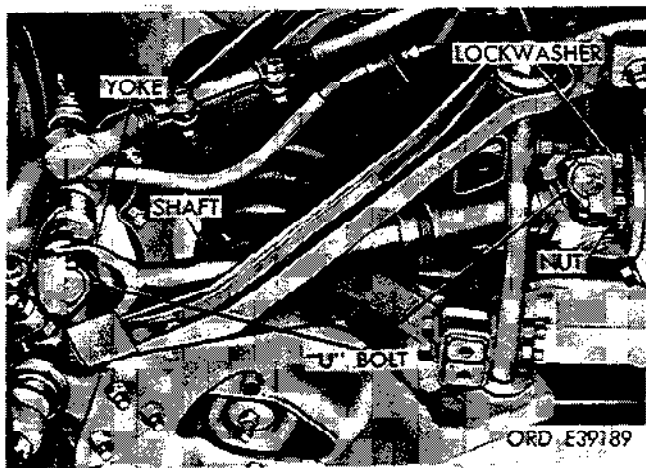

Figure 2-301. Remove front wheel drive shaft.
a. Removal (fig. 2-301). Raise front of vehicle. Remove eight nuts and lockwashers from four "U" bolts. Slide drive shaft universal joint yoke toward wheel and remove shaft.
b. Installation (fig. 2-301, and reverse procedure). Slip joint end of shaft must be installed toward differential.